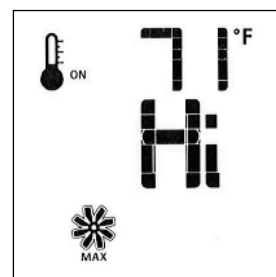

Figure 75. Fan Speed.
- Use the Up/Down Arrow Keys to turn ON, OFF, or adjust the fan speed. Fig. 75. A single “beep” will confirm reception of the command. After a 5 minute interval, the fan will power up to its highest speed and then modulate down to the established fan speed setting. The fan will continue to operate for 12 minutes after the burner is turned off. Manual speed control is not available when the SMART Thermostat is ON.